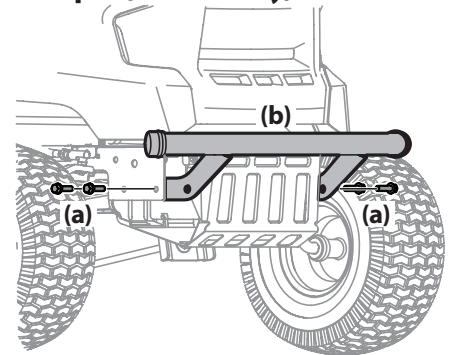

Figure 10
- Position the bumper brackets to the **inside** of the tractor's frame and secure it in place with the four hex screws (a). Torque to 332-405 in-lbs (37.5-45.75 N-m). See Figure 10.